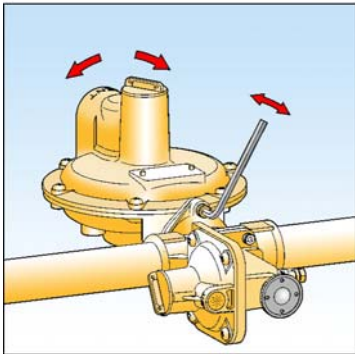

Fig. 2
8. In order to fit the regulator into confined spaces it may be necessary to rotate the diaphragm case. This is achieved by slacking off the two cap screws, rotating the diaphragm case, and then re-tightening the cap screws evenly. See Fig. 2.